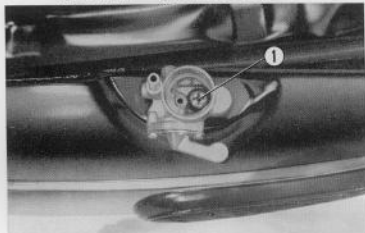

Fig. 4.44 Removing fuel cock
5. The fuel cock can be removed by first unscrewing the fuel strainer cap, removing the filter screw and then the cross pin fuel cock mounting screw. ① (Fig. 4.44)